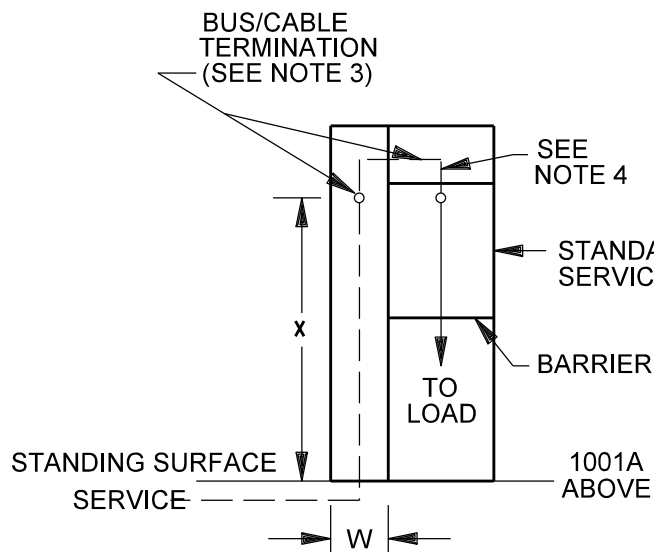
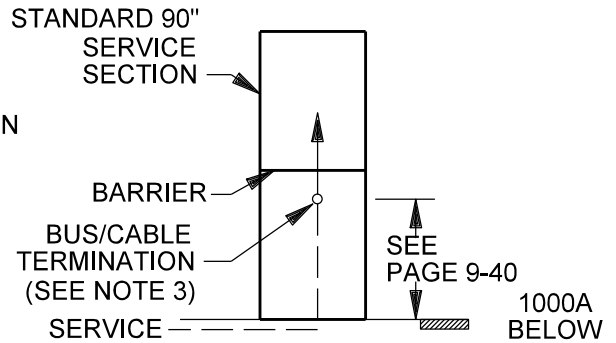

FIG.1
FIG.2
- 1. A switchboard pull section (Fig. 1) or a reverse feed service section (Fig. 2) shall be provided for underground service.
- 2. When the service section is served from a pull section, the bus or cable conductors shall enter through the side or back of the sealable section above the current transformer compartment (as shown in Fig. 1) or shall enter by means of horizontal cross bussing in back of metering compartment.
Exception: Edgewise terminating facilities may consist of 9/16" holes having the same spacing as specified for the 1/2" bolts in Note 1 and in Figure 1. The unobstructed working space shall be provided on both sides of the termination bus (see Figure 3).
4. In the terminal mounting area, which is defined as the area of the terminating facilities shown in Figure 1, a clear space (barrel of proximity) of 1 1/2" minimum is required around any terminating facility. This includes its bolts, bolt heads, any other bus, any other terminating facility or any grounded surface, except:
Exception: For terminating facilities with bolts facing the access opening (as shown in Figure 2), the required 1 1/2" side clearance (bus to access opening return flange) may be reduced to 3/4".